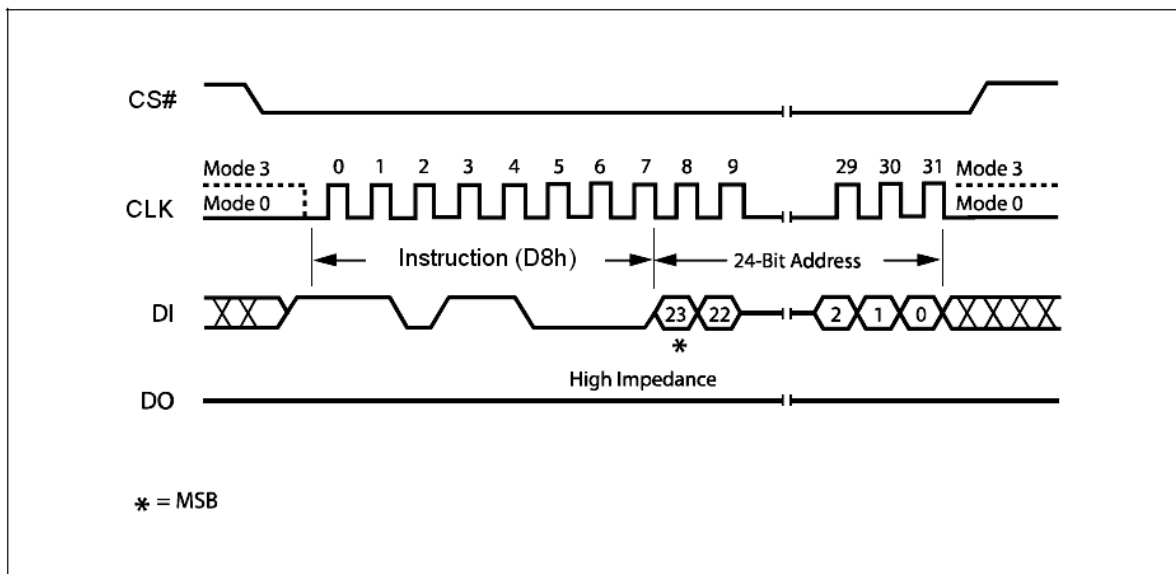

Figure 18. Block Erase Instruction Sequence Diagram
The instruction sequence is shown in Figure 18. Chip Select (CS#) must be driven High after the eighth bit of the last address byte has been latched in, otherwise the Block Erase (BE) instruction is not executed. As soon as Chip Select (CS#) is driven High, the self-timed Block Erase cycle (whose duration is t_{BE}) is initiated. While the Block Erase cycle is in progress, the Status Register may be read to check the value of the Write In Progress (WIP) bit. The Write In Progress (WIP) bit is 1 during the self-timed Block Erase cycle, and is 0 when it is completed. At some unspecified time before the cycle is completed, the Write Enable Latch (WEL) bit is reset.